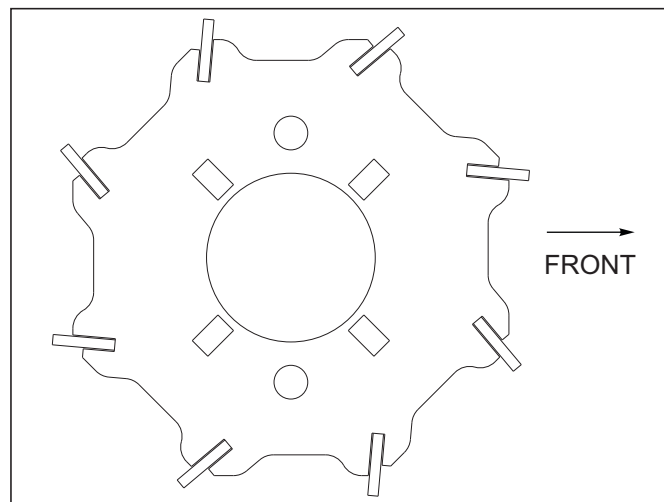

Figure 4-19: Flat Reel
5. The 12" diameter reel consists of either 1/4 x 1-1/4 flat bars with a spiral shape for smoother rotation. The reels have no inner shaft to reduce plugging in wetter conditions. The reels operate independently of the 3 row spike with two spring loaded arms per reel to maintain consistent down pressure. The blades on flat bar reels are angled for more aggressive action. Install the reels as shown See Figure 4-19.